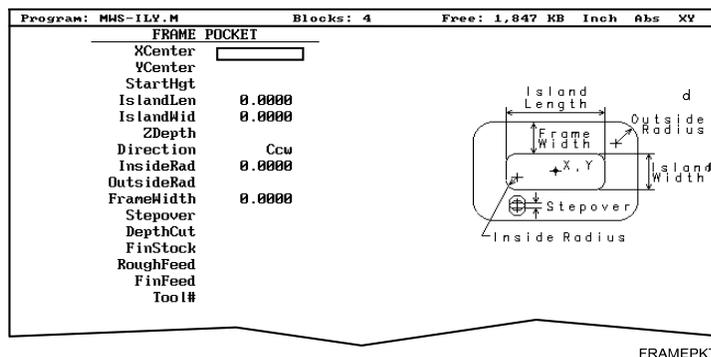

Figure 5-18, FRAME POCKET Graphic Menu
2. Highlight **Frame**, and press **ENTER** to display the **FRAME POCKET** Graphic Menu. Refer to **Figure 5-18**.